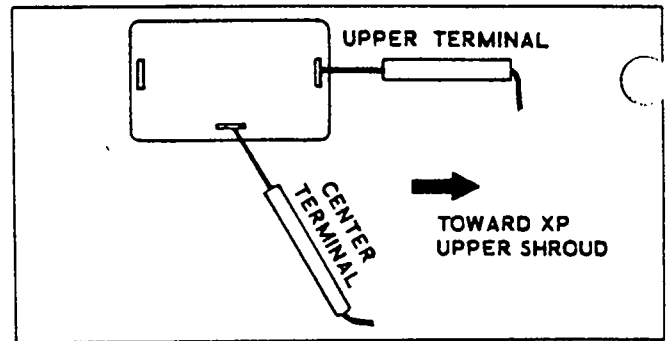

Figure 6
B.) Connect the meter test leads to the switch terminals as shown in figure 6.